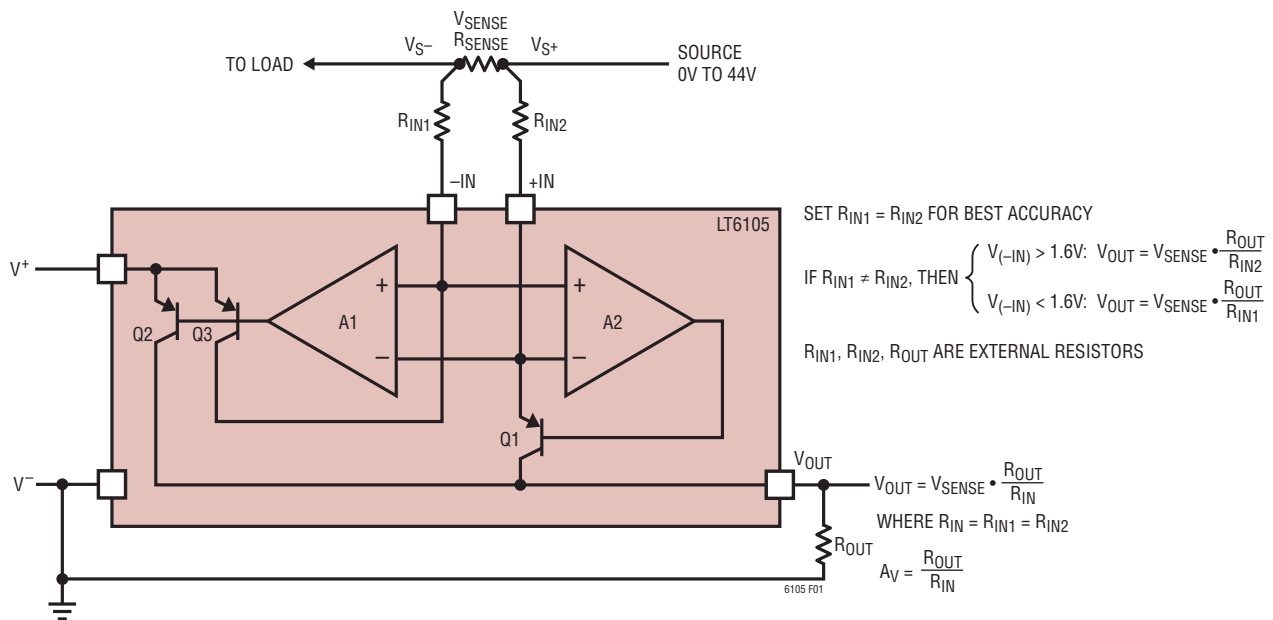

Figure 1. Simplified Block Diagram
**+IN (Pin 6/Pin 8):** Positive Sense Input Terminal. Connecting a source to  $V_{S^+}$  and a load to  $V_{S^-}$  will allow the LT6105 to monitor the current through  $R_{SENSE}$ , refer to Figure 1. Connect  $+IN$  to an external gain-setting resistor  $R_{IN2}$  to set the gain.  $+IN$  remains functional for voltages up to 44V, referred to  $V^-$ .
The LT6105 extended input range current sense amplifier (see Figure 1) provides accurate unidirectional monitoring of current through a user-selected sense resistor. The LT6105 is fully specified over a  $-0.3\text{V}$  to  $44\text{V}$  input common mode range. A high PSRR  $V^+$  supply (2.85V to 36V) powers the current sense amplifier. The input sense voltage is level shifted from the sensed power supply to the ground reference and amplified by a user-selected gain to the output. The output voltage is directly proportional to the current flowing through the sense resistor.
### THEORY OF OPERATION (Refer to Figure 1)
The crossover voltage, the voltage where the  $g_m$  of one input stage is transferred to the other, occurs at 1.6V above  $V^-$ . Near this region, one input stage is shutting off while the other is turning on. Increases in temperature will cause the crossover voltage to decrease. For input operation between 1.6V and 44V, the common base PNPs are active (Q2, Q3 of Figure 1). The typical current through each input at  $V_{SENSE} = 0V$  is 15 $\mu A$ . The input offset voltage is 300 $\mu V$  maximum at room temperature. For input operation between 1.6V to 0V, the other PNP is active. The current out of the inputs at  $V_{SENSE} = 0V$  is 100nA. The input offset voltage is untrimmed and is typically 300 $\mu V$ .
The LT6105 is designed to exhibit fast response to inputs for the purpose of circuit protection or signal transmission. This response time will be affected by the external circuit in two ways—delay and speed. If the output current is very low and an input transient occurs, there may be an increased delay before the output voltage begins changing. This can be improved by increasing the minimum output current, either by increasing  $R_{SENSE}$  or decreasing  $R_{IN}$ . The effect of increased output current is illustrated in the step response curves in the Typical Performance Characteristics section of this data sheet. Note that the curves are labeled with respect to the initial output currents. The speed is also affected by the external circuit. In this case, if the input changes very quickly, the internal amplifier will slew the base of the internal output PNP (Figure 1) in order to maintain the internal loop. This results in current flowing through  $R_{IN}$  and the internal PNP. This current slew rate will be determined by the amplifier and PNP characteristics as well as the input resistor,  $R_{IN}$ . See the Slew Rate vs  $R_{IN}$  curve in the Typical Performance Characteristics section. Using a smaller  $R_{IN}$  will allow the output current to increase more quickly, decreasing the response time at the output. This will also have the effect of increasing the maximum output current.